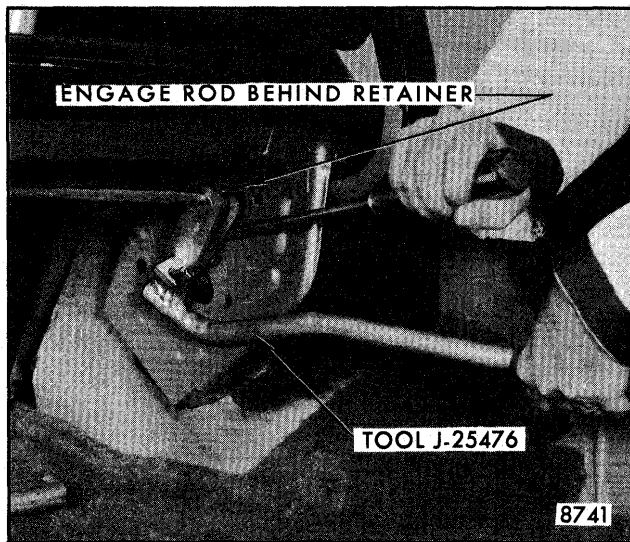

Fig. 7-12-Torque Rod Engagement
8. Using tool J-25476 or equivalent, rotate rod upward and engage rod behind retainer with the aid of a long flat-bladed screwdriver, as shown in Figure 7-12.